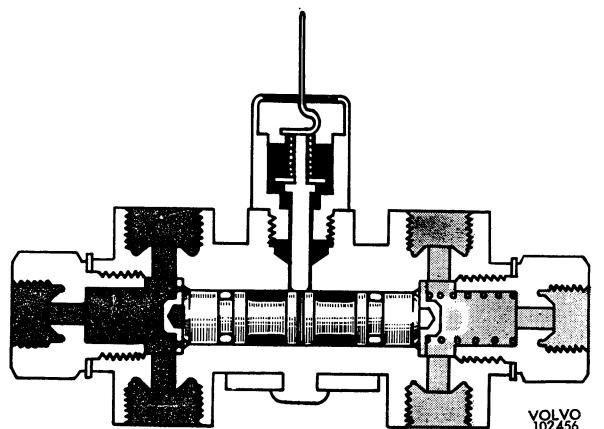

Fig. 5-40. Warning position
It is only when the pressure in the secondary circuit first exceeds that in the primary circuit by about 10 kp/cm² (142 p.s.i.) that the pistons are pushed so far to the right that the guide pin (4) can be pressed downwards. When this happens, the switch washer (2) reaches the housing (3) and current is cut in (Fig. 5-40). The guide pin is prevented from returning to its normal position until the fault has been rectified and the warning switch removed.